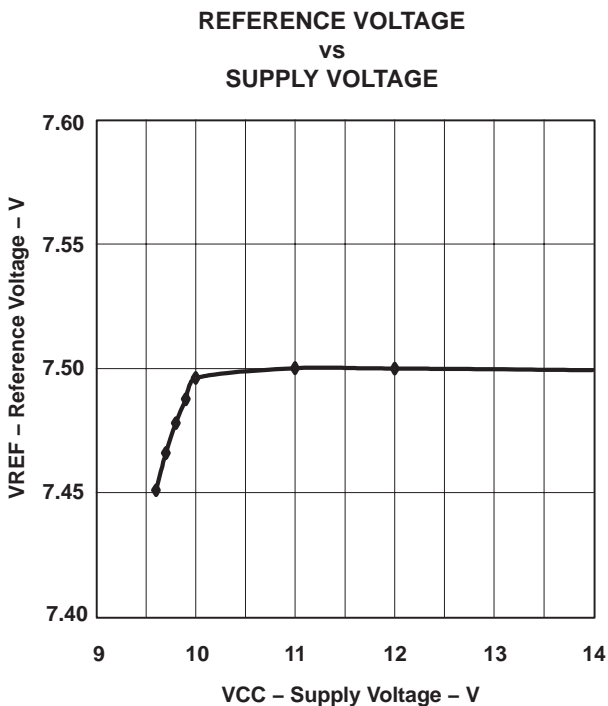

Figure 2
(2) Reference variation for $V_{CC} < 10.8\text{ V}$ is shown in Figure 2.
- NOTES: (1) Ensured by design, Not production tested.